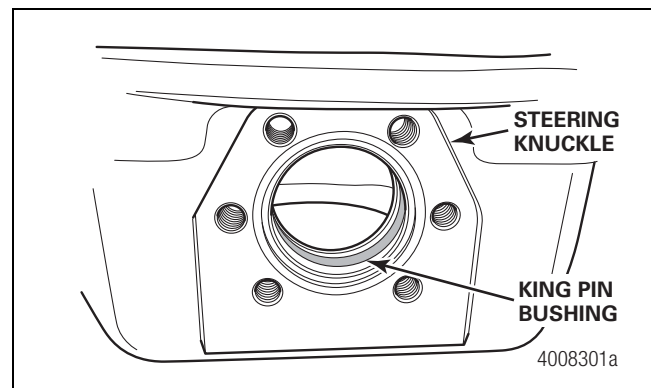

Figure 9.3
3. If removed, apply grease to the upper and lower knuckle bores and use a hammer and a driver to install the upper king pin bushing into the bore until flush with the surface. Figure 9.3.